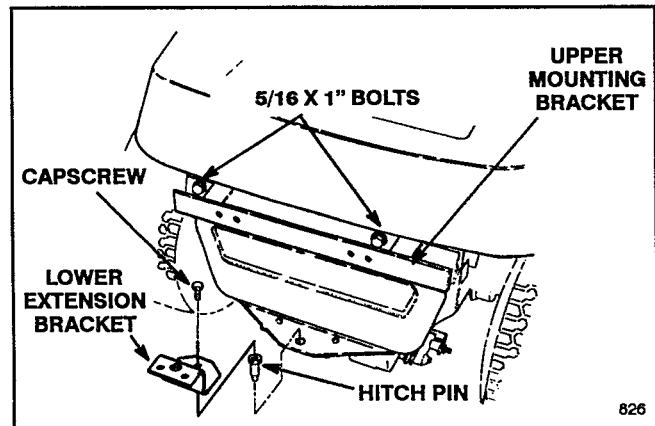

Figure 3
These units require the installation of an upper mounting bracket, lower extension bracket and hitch pin (Fig. 3) before attaching the grass catcher.
1. Attach the upper mounting bracket to the rear of the tractor using (2) 5/16 x 1" bolts and locknuts supplied (Fig. 3).